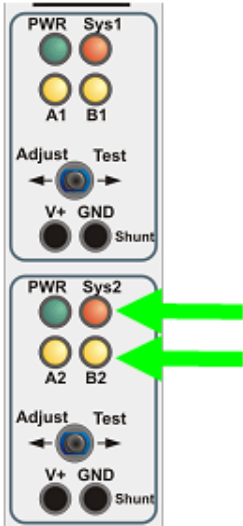

Figure 12 – IMC Board
3.8 Check the LED indications SYS1 and B1 have extinguished and the LED indications SYS2 and B2 remain illuminated (Figure 12).